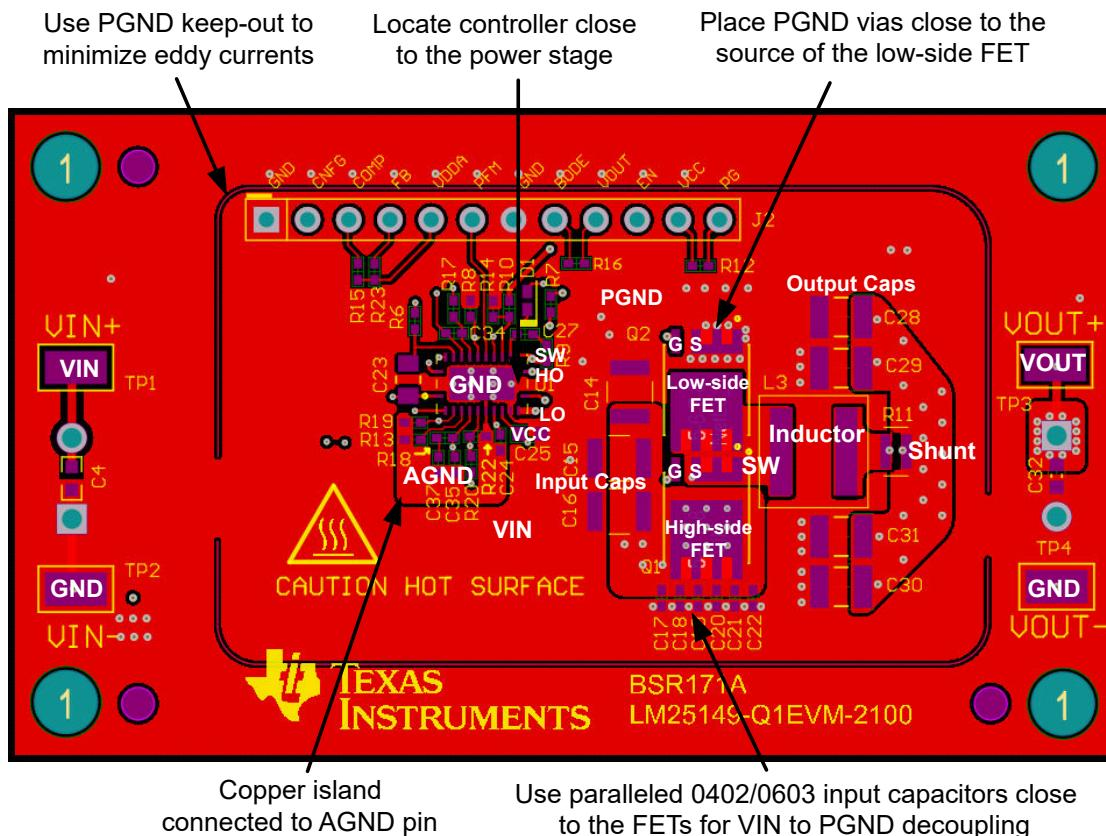

Figure 9-36. PCB Top Layer – High Density, Single-sided Design
Figure 9-36 shows a single-sided layout of a synchronous buck regulator with discrete power MOSFETs, Q1 and Q2, in SON 5-mm × 6-mm case size. The power stage is surrounded by a GND pad geometry to connect an EMI shield if needed. The design uses layer 2 of the PCB as a power-loop return path directly underneath the top layer to create a low-area switching power loop of approximately 2 mm². This loop area, and hence parasitic inductance, must be as small as possible to minimize EMI as well as switch-node voltage overshoot and ringing.
- Make the ground connections to the LM25148 controller as shown in Figure 9-36. Create a power ground directly connected to all high-power components and an analog ground plane for sensitive analog components. The analog ground plane for AGND and power ground plane for PGND must be connected at a single point directly under the IC – at the die attach pad (DAP).